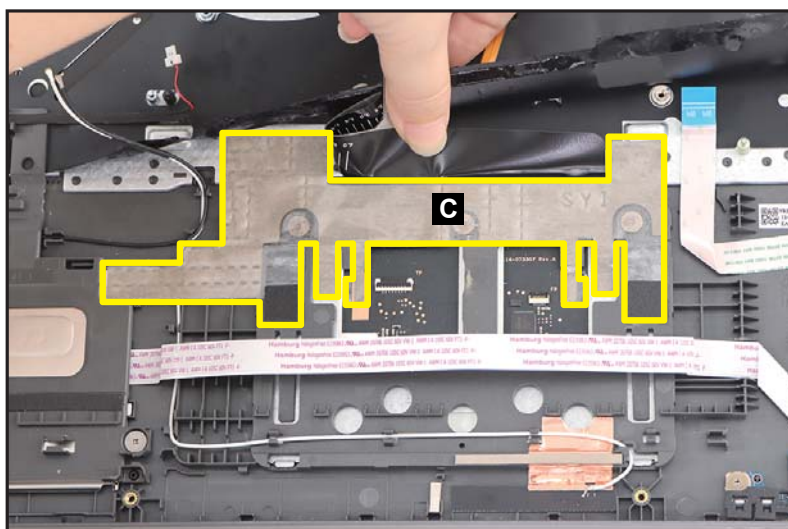

Figure 1-46. Touchpad Module Removal
3. Slightly detach and lift the mylar. Then detach the conductive tape (C) from the touchpad module and top assembly (Figure 1-46).